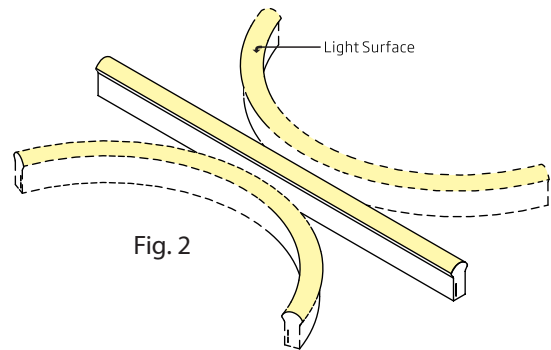

Fig. 2
- Do not bend the fixture in the opposite direction of its specified bending direction (Fig. 2, 4). Doing so will damage the internal circuit board.
DO NOT insert the pins into the front side of the PCB. (Fig.2)